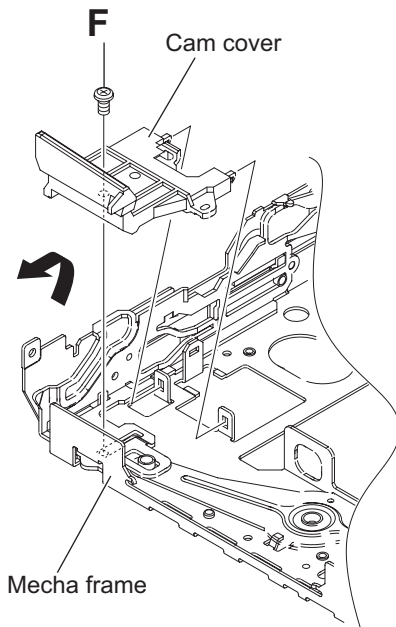

Fig.11
### 3.2.6 Removing the slide cam (L) (See Fig.11 to 13)
- From the top side of the mecha frame, remove the screw **F** attaching the cam cover. (See Fig.11.)
- Take out the cam cover from mecha frame in an upward direction. (See Fig.11.)